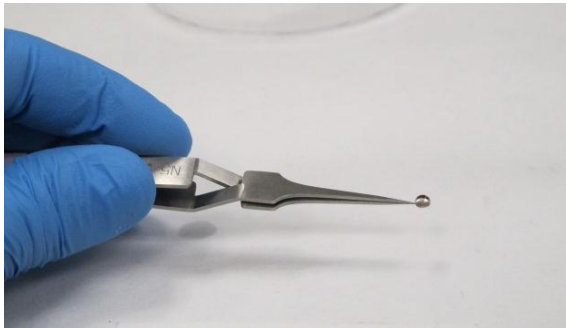

Figure 4. Staining the grid with a drop of uranyl acetate.
- 5) Add a third drop of uranyl acetate solution to the shiny side of the grid and allow it to sit for 45 seconds (Figure 4)